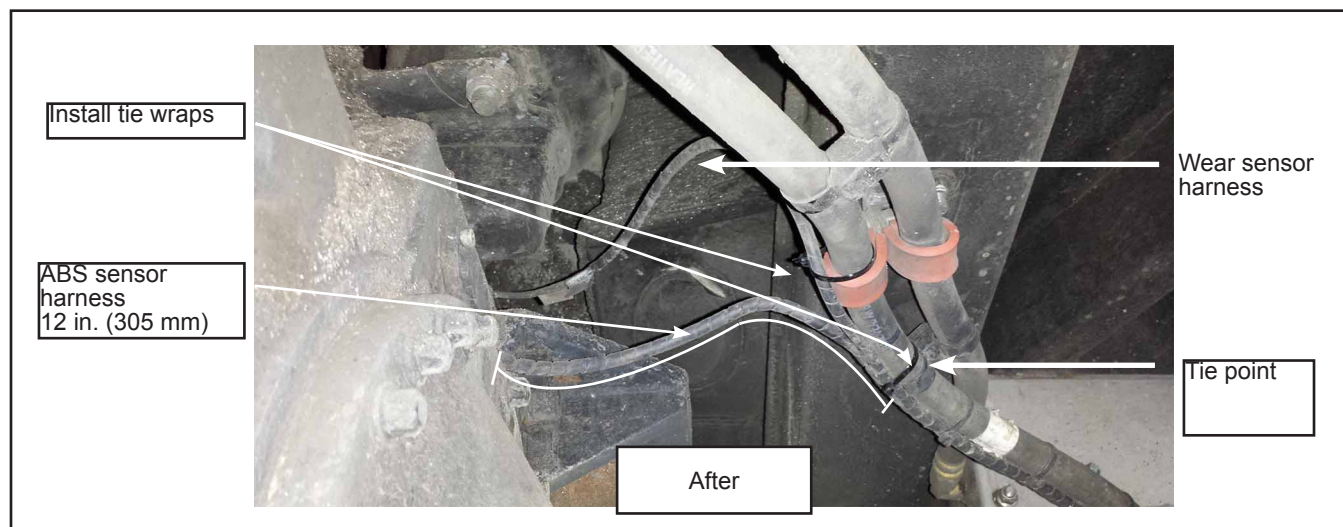

Figure 23 - Driver Side Electrical Harness Routing
- 2.43. Mark the ABS sensor electrical harness at the position indicated in Figure 23.
- 2.44. Affix the ABS electrical harness to the brake hose with a tie wrap at the tie point. See Figure 23.
- 2.45. Affix the wear sensor electrical harness to the brake hose. See Figure 23.